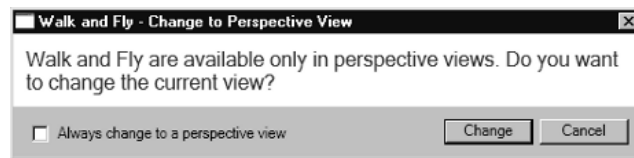

Figure 25-81 The **Warning** window for activating the **Walk** and **Fly** 3D navigation modes in the parallel projection
*The **Walk** and **Fly** 3D navigation modes can be activated only in the perspective projection. Activating the **Walk** or **Fly** 3D navigation mode in the parallel projection will display the **Warning** window, as shown in Figure 25-81.*